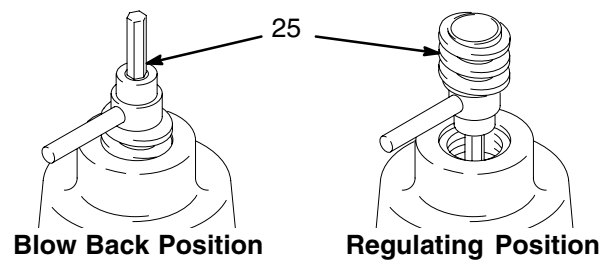

Fig. 2
1. Insert hex end of key (25) in adjusting screw (20) and turn counterclockwise until spring tension is relieved. See Figs 2 and 3.
2. Start pump and open shutoff valve of outlet (H) to admit fluid to regulator. Turn key (25) clockwise until desired fluid pressure shows on gauge.
3. Open regulator valve by screwing the threaded portion of key (25) as far as possible into the cap. See Fig. 2.
5. After blow-back, remove the adjusting key (25)
**Note:** Do not use the threaded end of key (25) to adjust pressure.